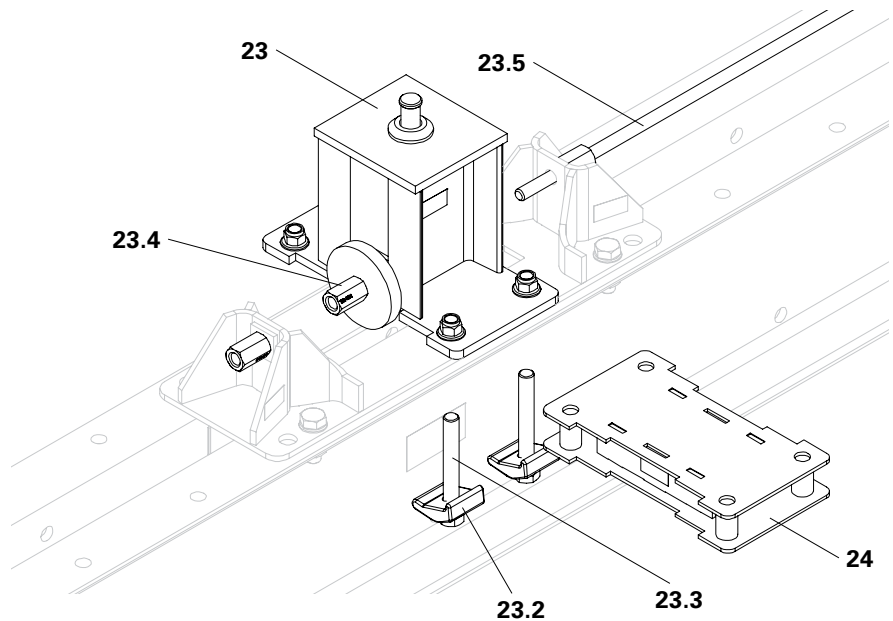

Fig. A4.03
3. Lift the top part of the Horizontal Bearing (23).
4. Slide the Cross Fall Adapter (24) in between and position it so that the holes align with the top part of the Horizontal Bearing.
- (Fig. A4.03)
6. Tighten the Horizontal Bearing (23) with the clamps (23.2) and bolts (23.3).